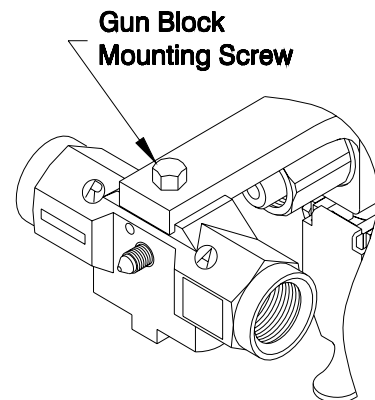

Figure 15. Gun Block Mounting Screw
10. REMOVE THE GUN BLOCK FROM THE MOUNT- Loosen the mounting screw with the 5/16" spintite (See Figure 15).